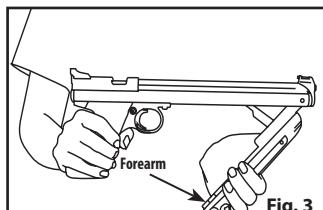

Fig. 3
- Open the forearm all the way until it stops (Fig. 3). Hold the forearm firmly as you open it.
CAUTION: PINCH HAZARD: Place your hands in the same positions shown in Fig. 3. Improper hand placement may result in pinching if you lose hold of the forearm and may result in injury. Use straight strokes while pumping the air pistol.